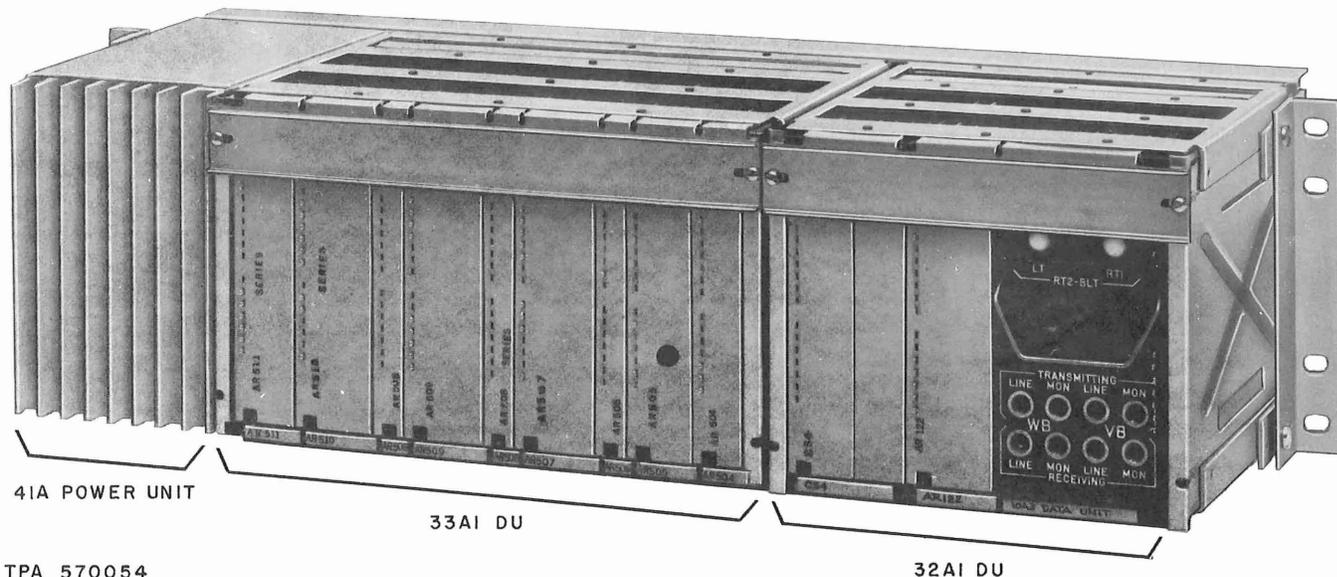

Fig. 3—Front View of Data Set 306A-L1/2
2.02 The DS 306A-L1/2 consists of a 33A1 DU, 32A1 DU, 41A power unit, 840129985 cord assembly, 840129977 cable assembly, and a P3BG cord (Fig. 3 and 4). The intended application for DS 306A-L1/2 is at the customer's location.